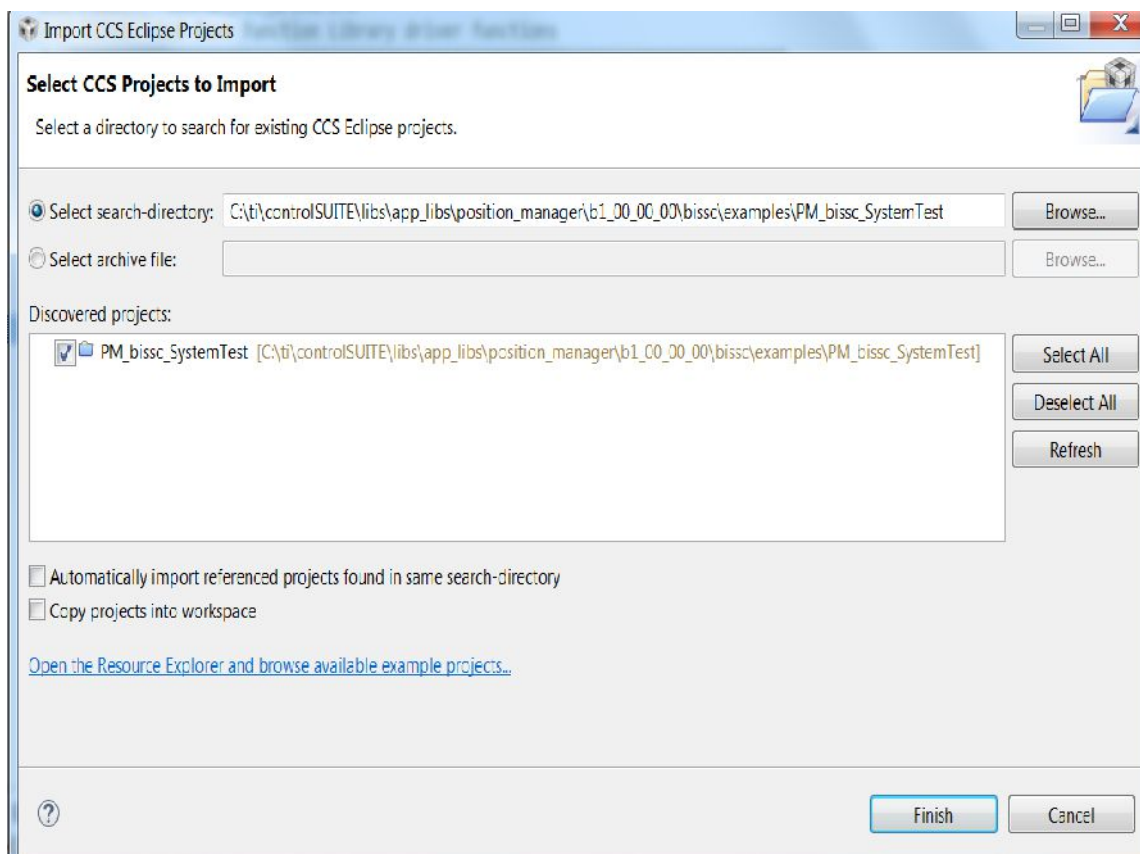

图 8. Adding PM Biss-C Example Project to Workspace
2. A window similar to 图 8 appears. Click the *Finish* button.
注: By default, CCS does not copy the project into the workspace. Any changes made to files within CCS are thus reflected in the files stored in the controlSUITE installation. If users desire to preserve the original files stored in controlSUITE, check the box *Copy projects into workspace*, as shown in 图 8.